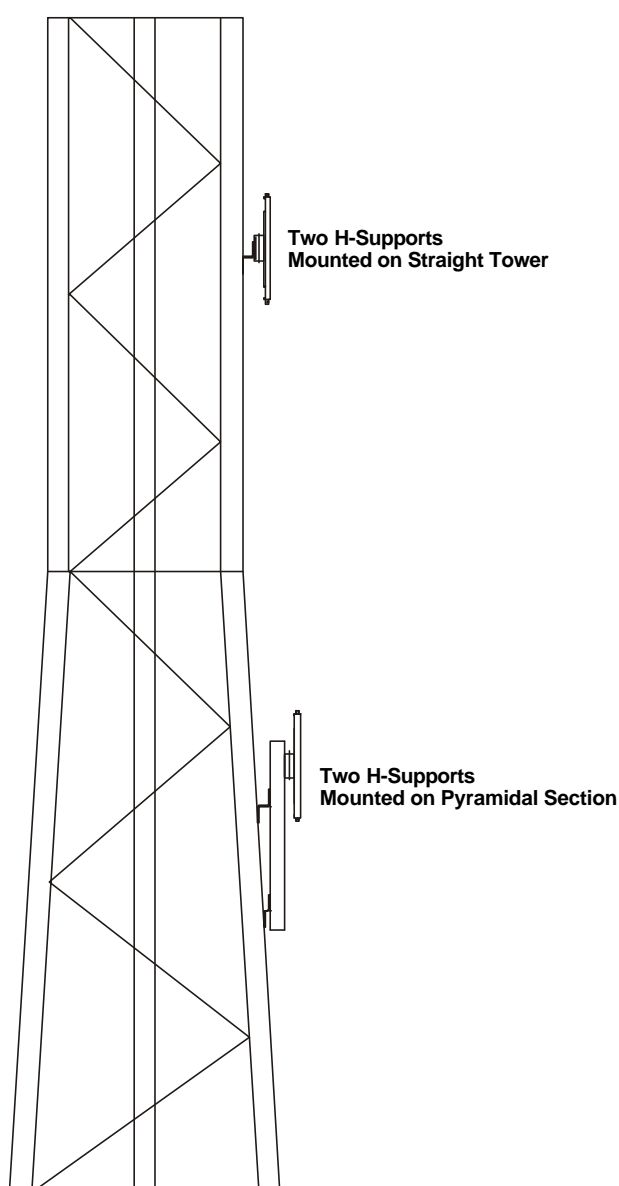

Figure 3-3. Typical H-Support Installations on Wide Towers, Side View
- (2) Wide Towers (Towers with Side Sections Exceeding 1200 mm). For this type of towers, dedicated mounting kits are used to attach pairs of H-supports. Side views of narrow H-support pairs installed on straight and pyramidal segments of a wide tower are shown in Figure 3-3.